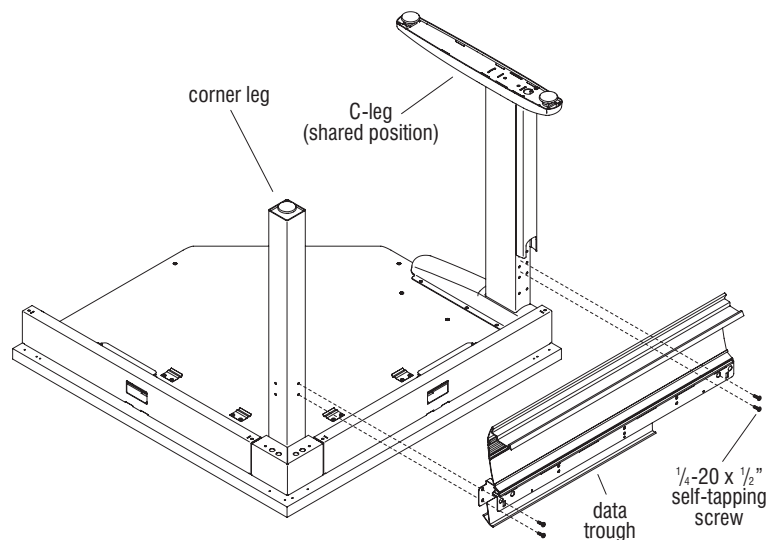

Figure 9 - Starter Table (corner shown)
1. Align the mounting holes on the data trough with the mounting holes on the back of the C-leg and corner leg. The corner table utilizes a shared position C-leg, reference Detail M for correct holes and mounting location on the C-leg. Secure the data trough to the legs using two $\frac{1}{4}$ -20 x $\frac{1}{2}$ " self-tapping screws per leg (Figure 9 & Detail M).